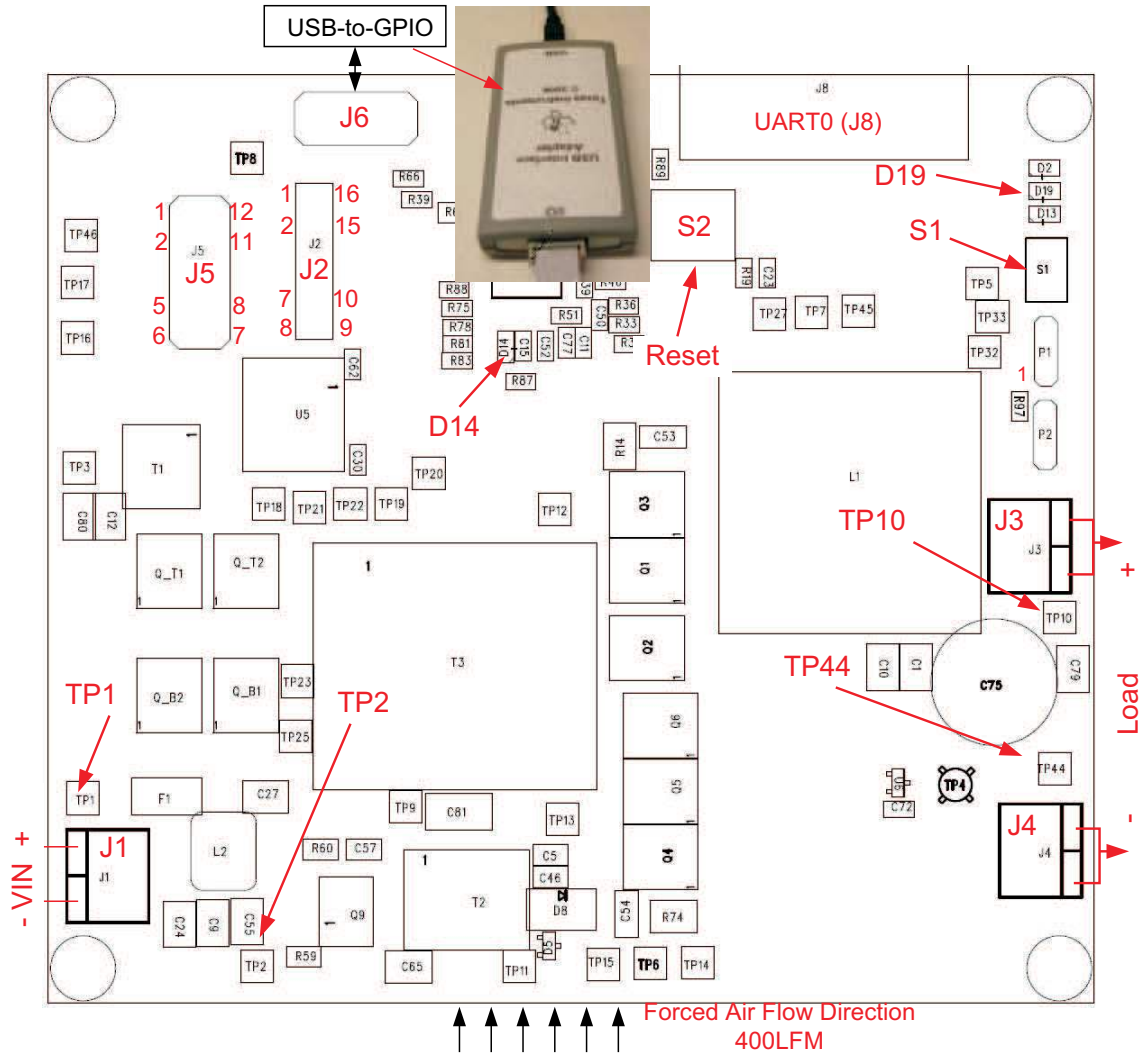

Figure 51. Test Setup
The board hardware connection is overall the same as shown in Section 5.2 and Figure 4 while shown in Figure 51 again. The addition to the setup is to connect USB-to-GPIO to the board. The ribbon cable connects to J6 and the USB cabled connects to a host PC computer. The remaining connections are described again in the below.
- Refer to Figure 51 for basic hardware connections. The required equipment is listed in Section 5.1.